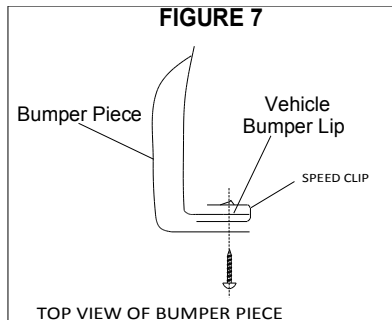

FIGURE 8
- (E) Apply a black tab to marked location on bumper, keeping the edge of tab even with the bumper lip. **See Figure 8.**
- (F) Slide a silver mini clamp over tab and bumper lip. **See Figure 8.**
- (G) Hold bumper piece in place and start the screws in the speed clips, keeping the screws loose.
- (H) Insure that the bumper piece lip is aligned with the inside bumper lip, and is even with the top of the bumper.
- (I) Tighten the three speed clips.
- (J) Start and tighten the #10 screw in the silver mini clamp at the bottom.
- (K) Adjust the flare to match the bumper piece and tighten the last screw. **(See Step 3: C)**
- (A) Remove and save 2 screws holding mud flap to vehicle.
- (B) If vehicle has no chrome strips, insert the supplied plastic grommets into holes in wheel well lip.